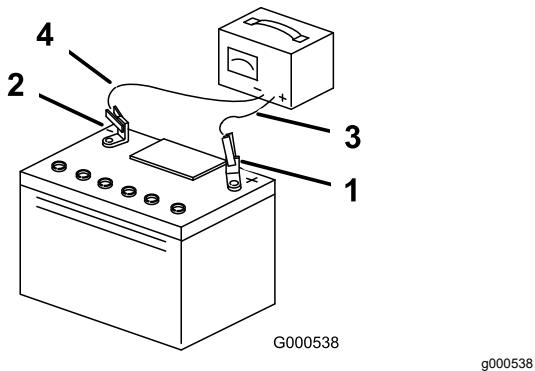

Figure 49
- When the battery is fully charged, unplug the charger from the electrical outlet, and disconnect the charger leads from the battery posts (Figure 49).